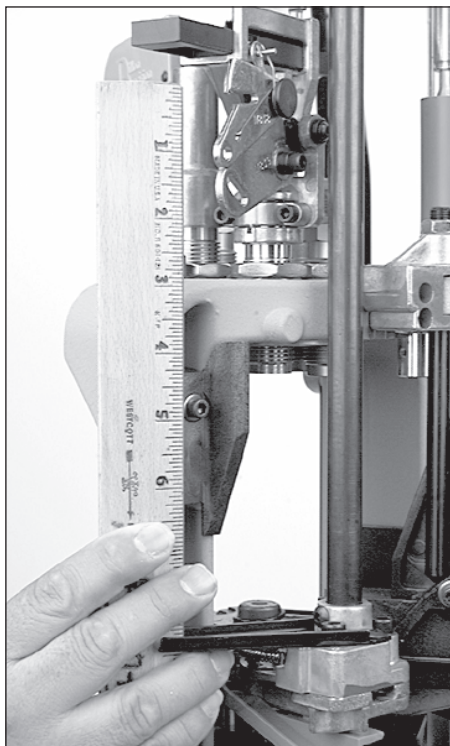
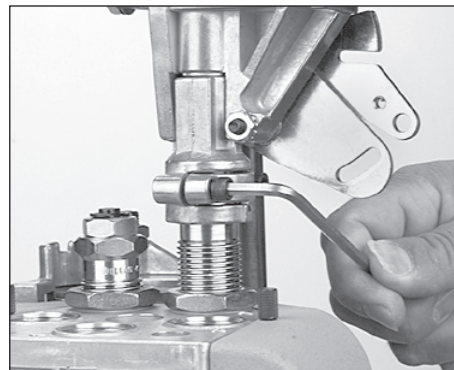

FIG 97
FIG 98
7. Insure the bellcrank and the failsafe bracket are aligned FIG 97. Using a 5/32" Allen wrench snug the collar clamp screws FIG 98.